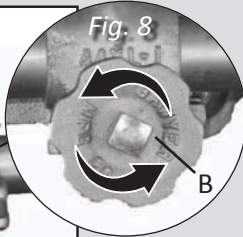

Fig. 8
A. Loosen bevel indicator square nut. (B, Fig. 8)
C. Tighten bevel indicator square nut. (B, Fig. 8)